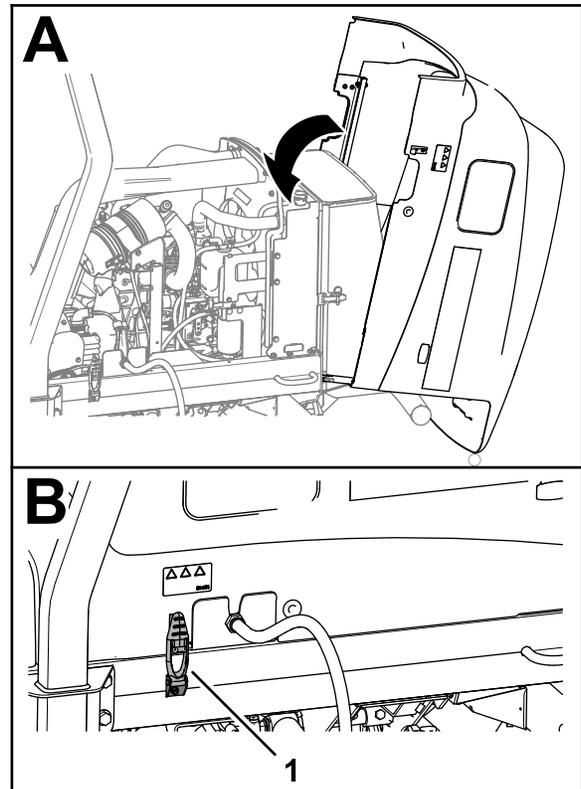

Figure 60
1. Carefully rotate the hood closed (Figure 60).